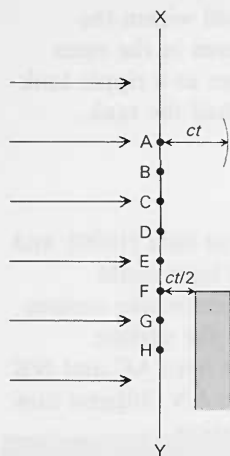

Figure J99
- 4(L)** A single wavefront is represented by a line XY in figure J99. The circular arc is a secondary wavelet drawn from A with radius ct . The obstacle is distance $ct/2$ from the wavefront. Copy and complete the diagram by drawing a series of secondary wavelets from B, C, D, etc., and sketch the shape of the wavefront after time t . Also sketch the shape of the wavefront after $2t$.